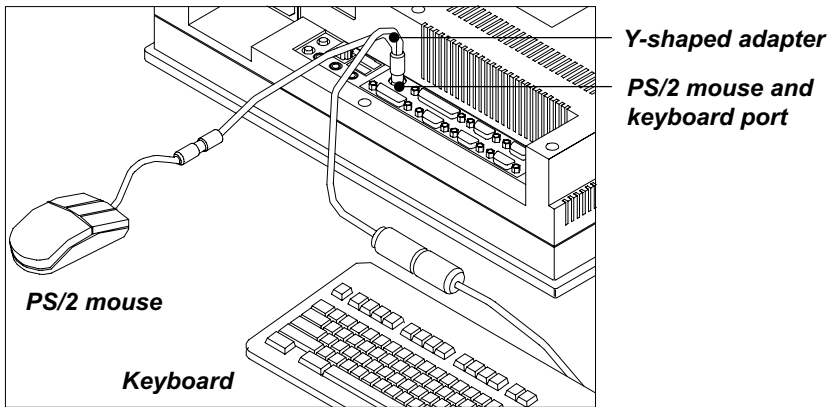
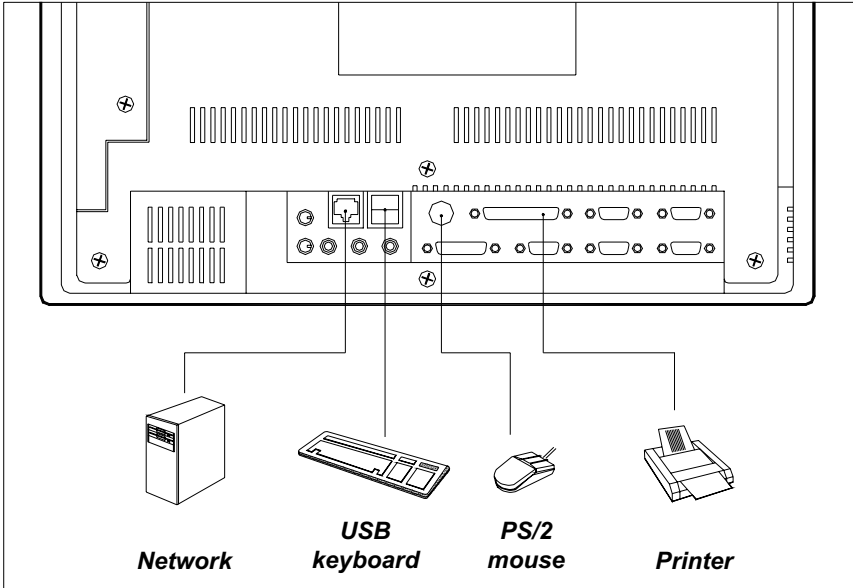

Figure 2-6: Connecting the keyboard and mouse
Figure 3-4: Using the I/O interface (upper level ports excluding COM ports)
1. Connect the Y-shaped adapter to the PS/2 mouse and keyboard port on the I/O section of the panel PC. (See Fig. 2-6.)
2. Connect the PS/2 mouse and keyboard to the Y-shaped adapter. (See Fig. 2-6.)
2. Connect the Y-shaped adapter to the PS/2 mouse and keyboard port on the rear bottom side of the rear cover. (See Fig. 3-4 and Fig. 2-6.)
3. If necessary, attach the other end of your printer cable to your printer, and fasten any retaining screws. A typical parallel printer connection is illustrated in Fig. 3-4.
1. Connect the external device to the system. (See Fig. 3-4.)
2. Connect the external device(s) to the panel PC. (See Fig. 3-4.)